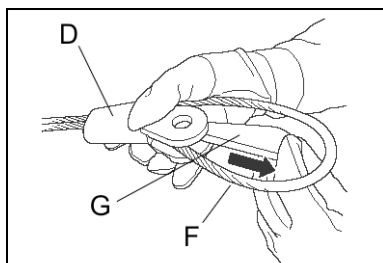
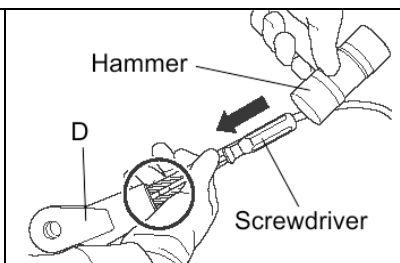

Figure 6-12
Figure 6-13
7) Pull the Terminal Wedge (G) out of the Terminal (D) as shown in **Figure 6-12**. If it is difficult to remove, use a screwdriver and small hammer to lightly tap it out of the Terminal (D) as shown in **Figure 6-13**.